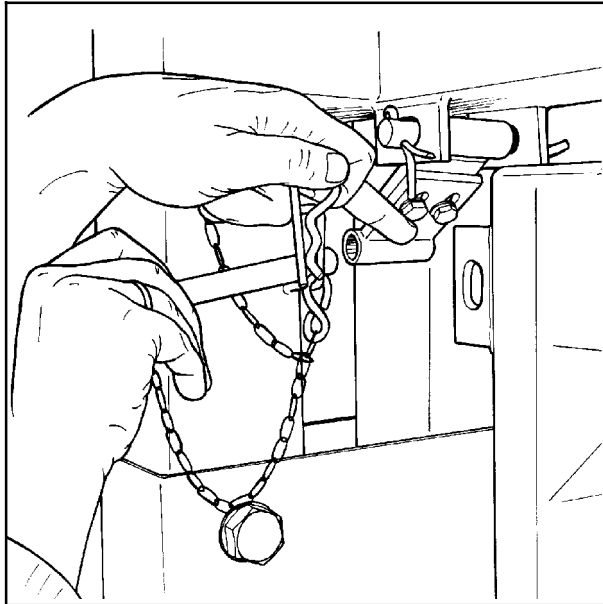

Fig. 4-5
6. Remove the locking bolt that holds the wrapping arm to the frame during transport. (Fig. 4-5).